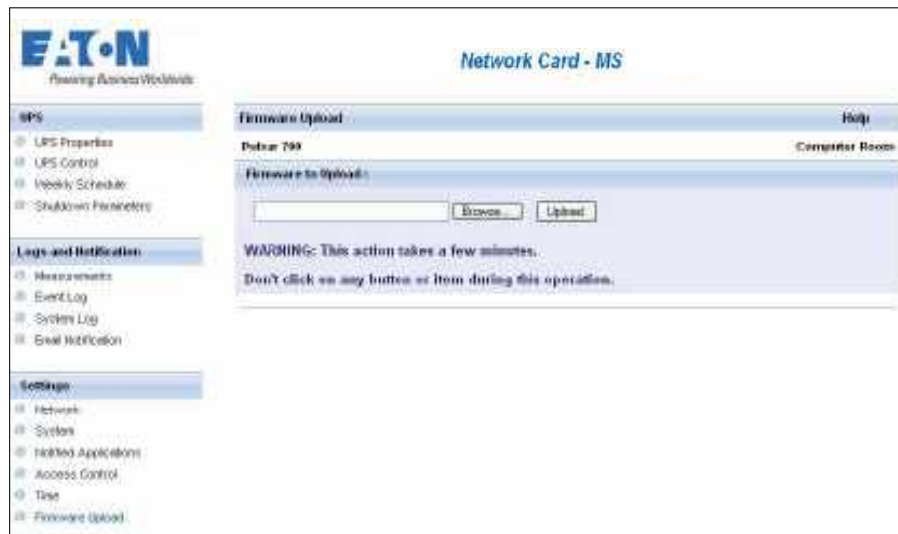

Figure 51. Firmware Upload Page
2. Click **Firmware Upload** from the menu bar to open the Firmware Upload page (see Figure 51).